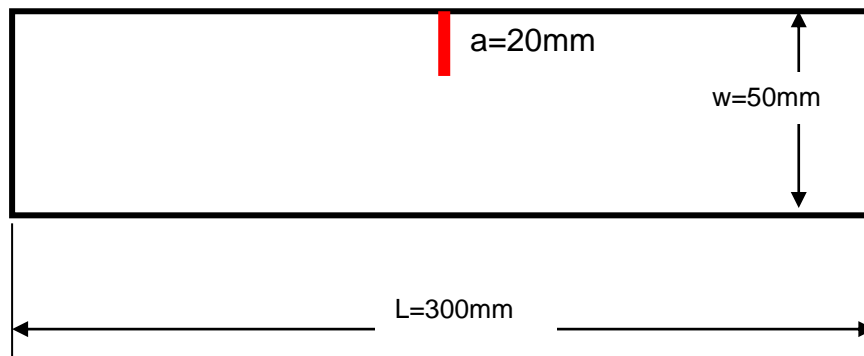

Figure 1. Dimensions of the specimen considered in this course
The dimension of specimen is shown in *Figure 1*. The crack size (a) is 20 mm, specimen depth (w) is 50 mm and length (L) is 300 mm.
Same specimen shown in *Figure 1* will be used for the analyses of tension (*Figure 4a*) and bending (*Figure 4b*) problems.